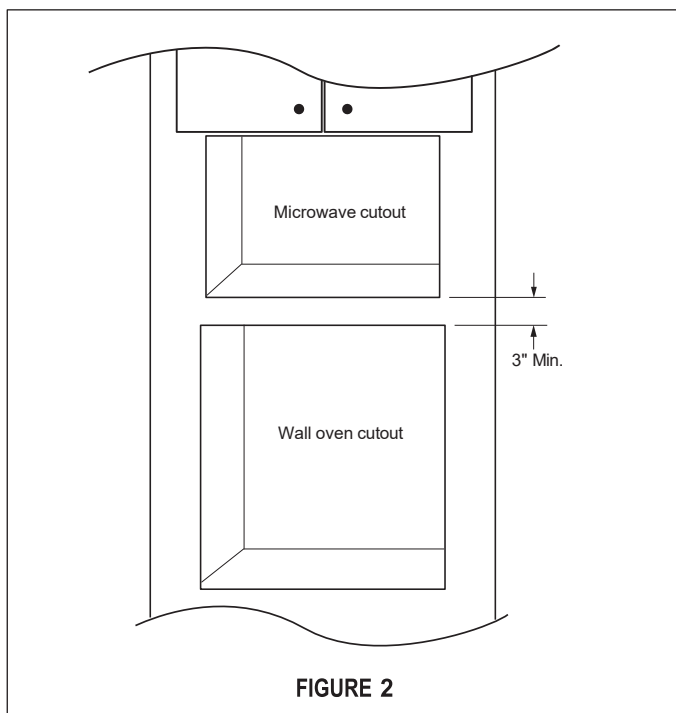

FIGURE 2
- Please allow minimum 3" wood gap between the microwave oven cutout and the appliance cutout below the microwave oven. See Figure 2.